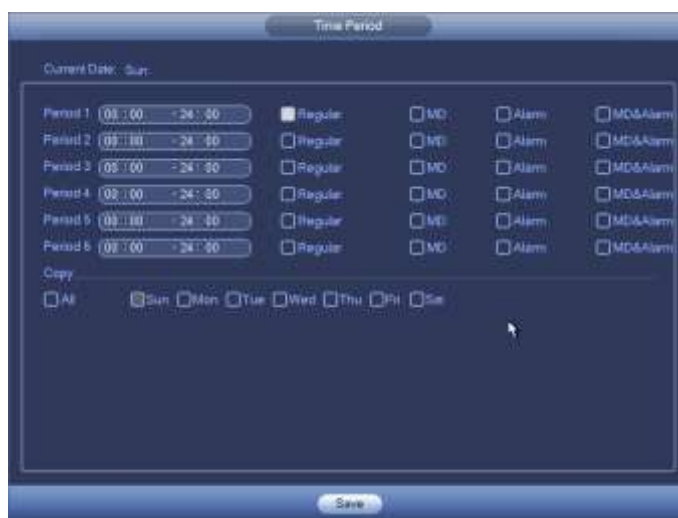

Figure 3-12
● Period setup: Click button  after one date or a holiday, you can see an interface shown as in Figure 3-12. There are four record types: regular, motion detection (MD), Alarm, MD & alarm.